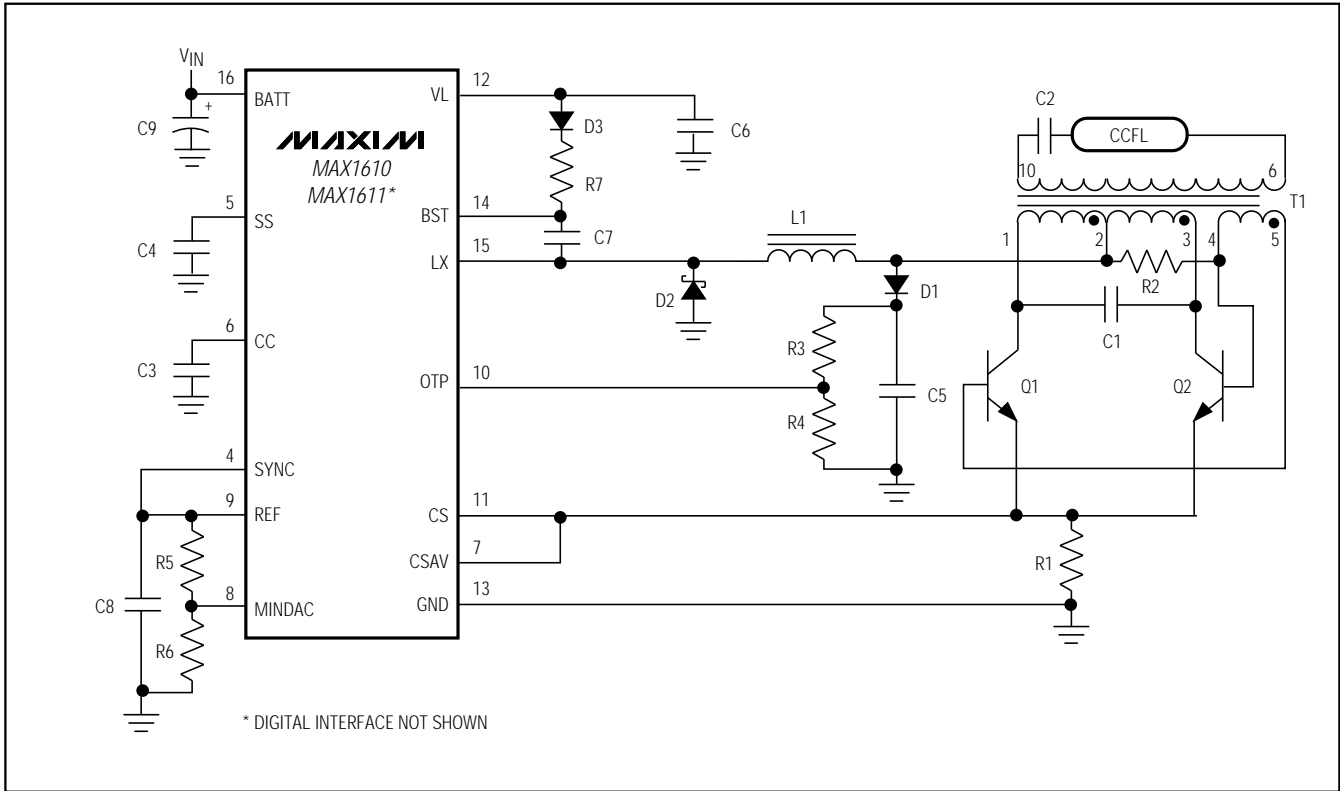
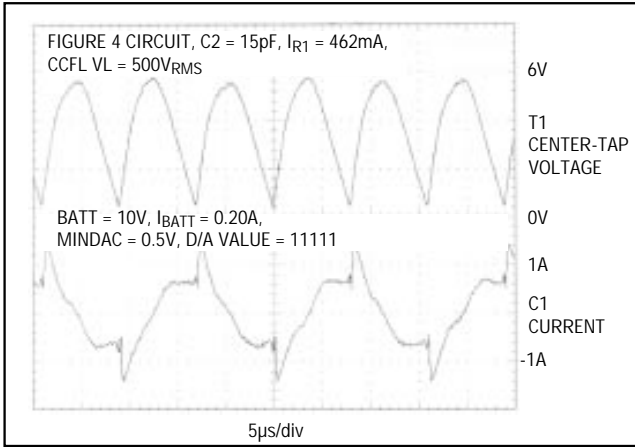
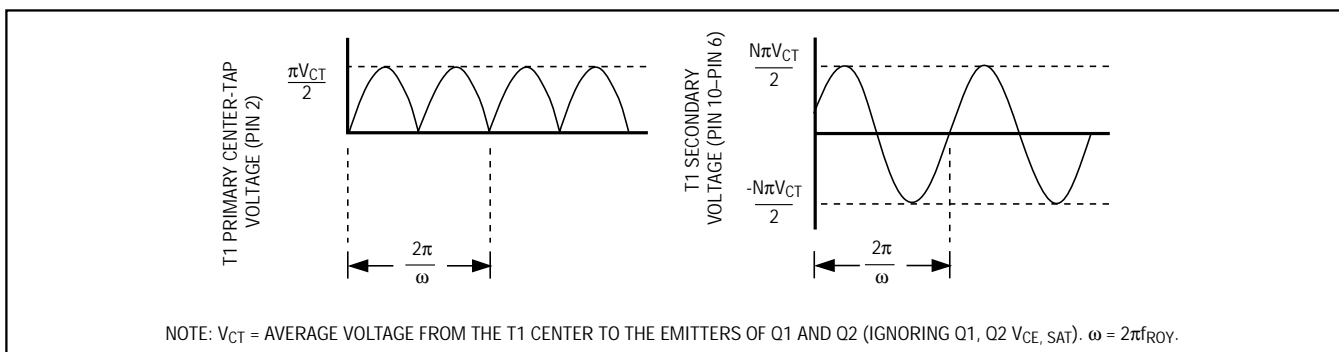

Figure 4. Typical Floating-Lamp Application Circuit
Figure 5. Royer Oscillator Typical Operating Waveforms for Circuit of Figure 4
Figure 8. Transformer Primary/Secondary Voltage Relationship
Table 3 shows the recommended component values to use with the circuit of Figure 4, depending on the particular CCFL parameters. The C2 values in Table 3 have been selected such that the normal operating voltage on the secondary of T1 is as close as possible to the CCFL strike voltage (where the strike voltage ( $V_S$ ) is assumed to be approximately 1.8 times the CCFL operating voltage ( $V_L$ )).
does not exceed its maximum rating, despite T1, C1, and C2 component-value variations. The Royer oscillator waveforms for the circuit of Figure 4 are shown in Figures 5 and 6.
The MINDAC pin sets the lowest CCFL brightness level. The voltage at MINDAC is divided by eight, and sets the minimum CSAV regulation voltage. For example, in the circuit of Figure 4, R5 (150k $\Omega$ ) and R6 (51k $\Omega$ ) form a resistor divider from REF, which sets MINDAC to 507mV (REF = 2.0V). This sets a minimum CSAV regulation voltage of 63mV with a full-scale CSAV regulation voltage of 247mV.
**Table 3. Selecting Circuit Values for Figure 4**
Any real transformer used in a Royer oscillator will have a maximum-allowed secondary voltage. If the maximum-allowed secondary voltage is exceeded, the winding insulation can break down, leading to permanent transformer damage. The maximum-allowed secondary voltage can be exceeded either when the CCFL drive circuit is turned on without the CCFL being in place, or when the CCFL becomes disconnected during normal operation due to a mechanical failure. To protect against these fault conditions, use the OTP pin to sense the voltage on the transformer center tap (pin 2 of Figure 4). Whenever the voltage on OTP exceeds the REF reference voltage, the BATT-to-LX power switch is forced off.
For example, in Figure 4, the CTX110605 transformer has a maximum-allowed continuous secondary voltage of 1340VRMS. D1 and C5 detect the peak voltage on the center tap of T1. R3 and R4 determine the limit on the center tap peak voltage. The relationship between the voltage on the center tap of T1 and the secondary voltage is diagrammed in Figure 8. Neglecting the Q1/Q2 saturation voltage and the voltage on the R1 current-sense resistor yields Equation 1: